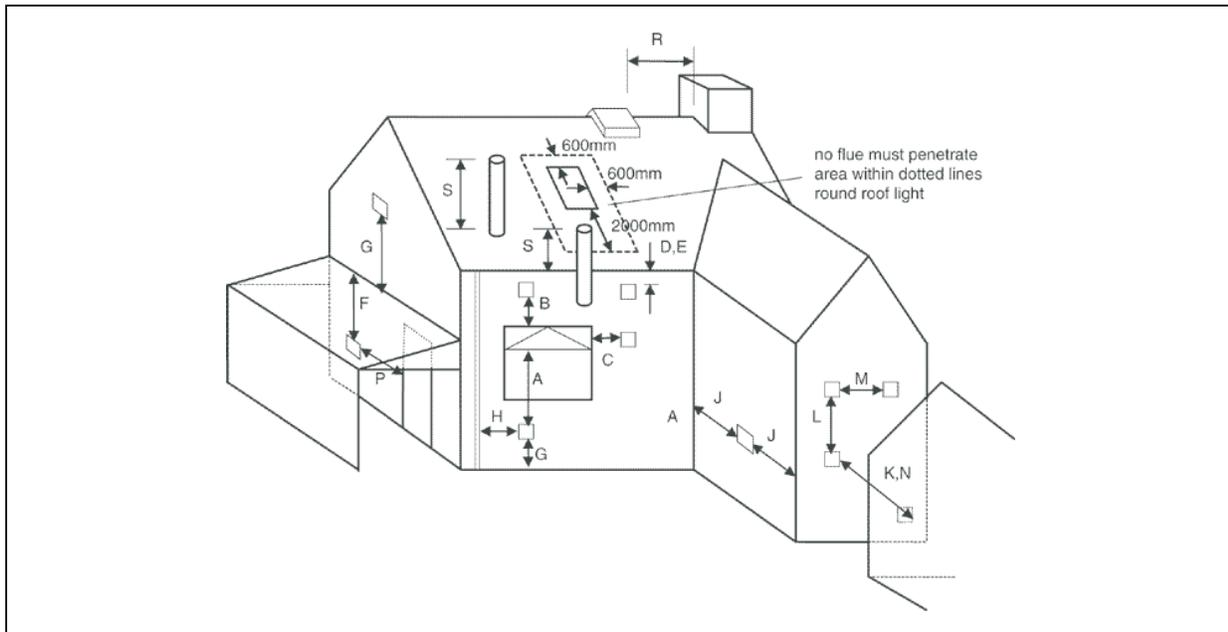

Fig. 09 Flue terminal positions
The flue terminal positions for the Remeha Selecta are shown in *Fig. 09*. The minimum distances to the terminal can be found in *Table 02*.
- 2) = The distance from a fanned draught appliance terminal installed at right angles to a boundary may be reduced to 300 mm in accordance with Fig. 09.